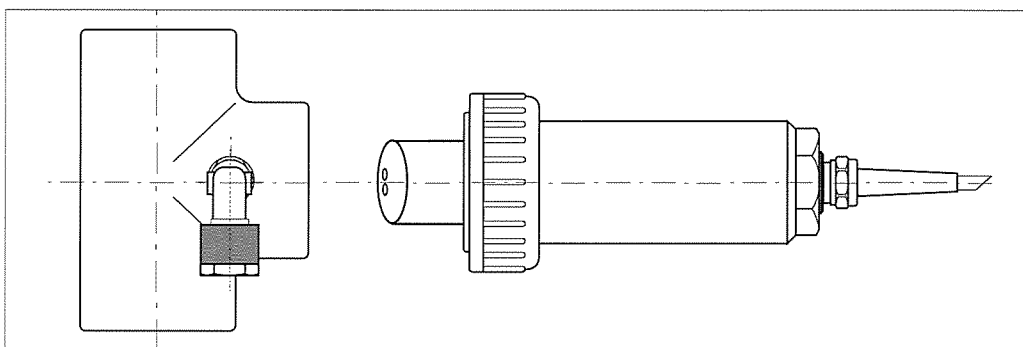

Fig. 4.7 Sensor alignment parallel to medium flow with CUA 250-B
- The flow assemblies should be installed in a vertical pipe section with upward medium flow (see figures 4.7 and 4.8).
1. Sensor alignment parallel to medium flow (see fig. 4.7)